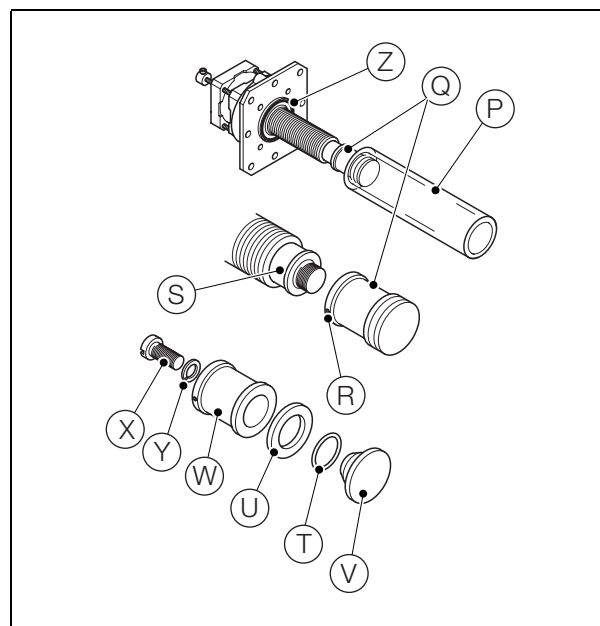

Fig. 12.15 Dismantling/Reassembling the Piston
8. Referring to Fig. 12.15:
- Slide the sample tube (P) off the piston assembly (Q). Discard the sample tube.
- Loosen retaining grub screw (R), unscrew the piston assembly (Q) from the piston shaft (S) and discard the piston assembly.
- Lightly lubricate the new O-ring (T) and piston seal (U) with the silicon grease from the piston kit.
- Fit the O-ring and piston seal to the new piston base (V).
- Insert the piston base, complete with seal and O-ring, into the new piston top (W) and secure loosely with the new piston cone adjusting screw (X) and spring washer (Y).